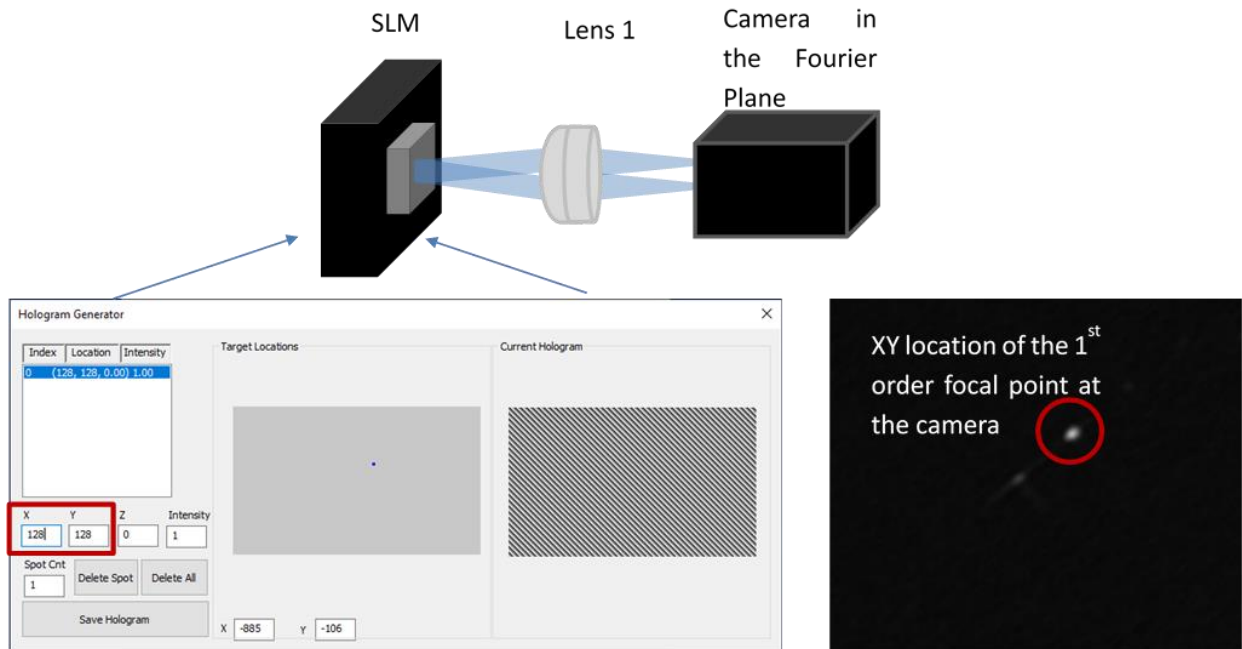

Figure 23 Generating an Affine Calibration
An affine transformation can be applied to the hologram computation algorithm to apply a mapping between focal point locations in the image plane, and focal point locations generated by the SLM. To calculate the transformation the user should create a series of three focal points in XY locations in SLM coordinates and record the resulting location of the 1st order focal point at a detector in the Fourier Plane. For example, Figure 23 shows one of the three measurements that must be passed as parameters to CalculateAffinePolynomials: a focal point with a SLM XY location of 128, 128, and a corresponding first order focal point on a camera. The locations will be passed as SLM_X_0 (128), SLM_Y_0 (128), CAM_X_0 (the x location of the 1st order), and CAM_Y_0 (the y location of the 1st order). To get a good calibration it is recommended that focal point locations are recorded when steering a focal point to three different quadrants. For example, SLM XY locations of: (128,128), (-128, 128), and (-128, -128). If 128 is too close to the 0th order to get an accurate measurement a wider angle can be used, such as 256 or 512.